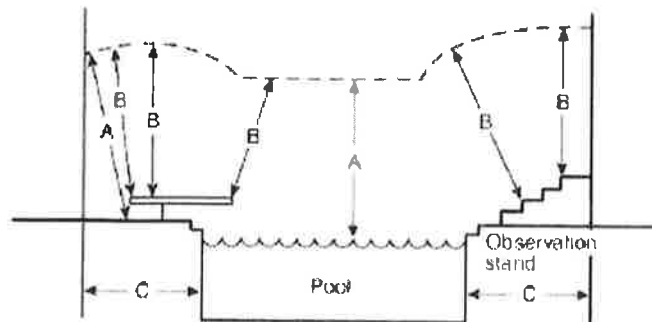

Figure 680.9(A) Clearances from Pool Structures.
- Service-drop conductors, overhead service conductors, and open overhead wiring, shall comply with the minimum clearances given in Table 680.9(A) and illustrated in Figure 680.9(A).